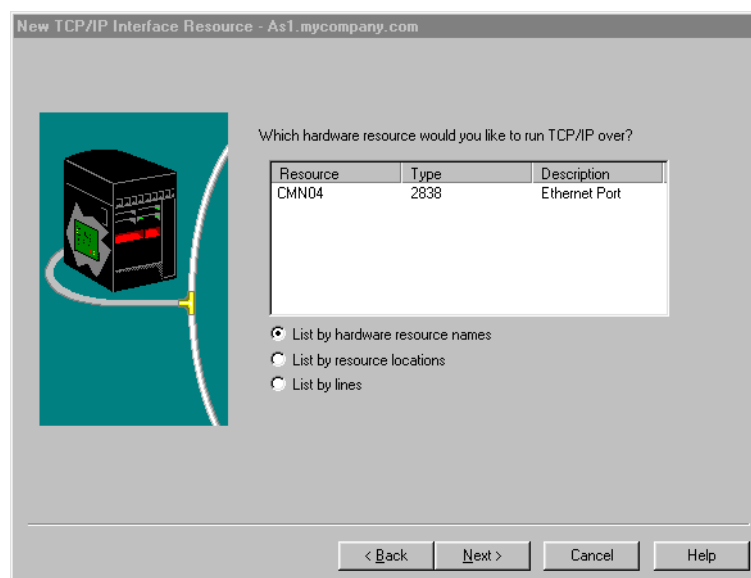

Figure 449. Select Hardware Resource
3. Select the type of connection you will define for TCP/IP (Ethernet, Token-Ring). In our example, we selected Ethernet. If you select Token-Ring, you may see some different parameters to define. Click **Next**. The New TCP/IP Interface Resource window appears (Figure 449).